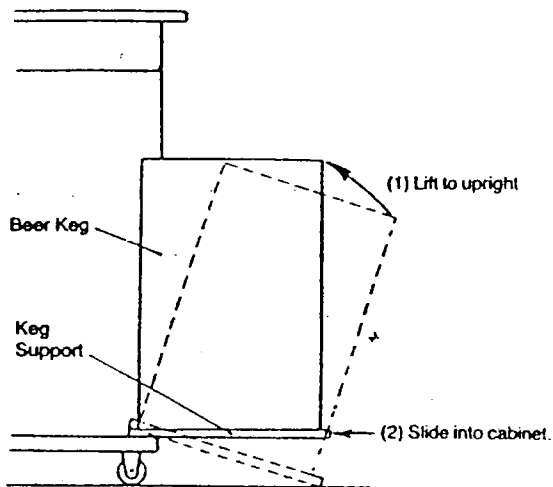

Fig. 3
- Make sure the keg is properly tapped, then open shutoff valve on CO₂ regulator. To install beer keg into cabinet follow the steps below (see Fig. 3).